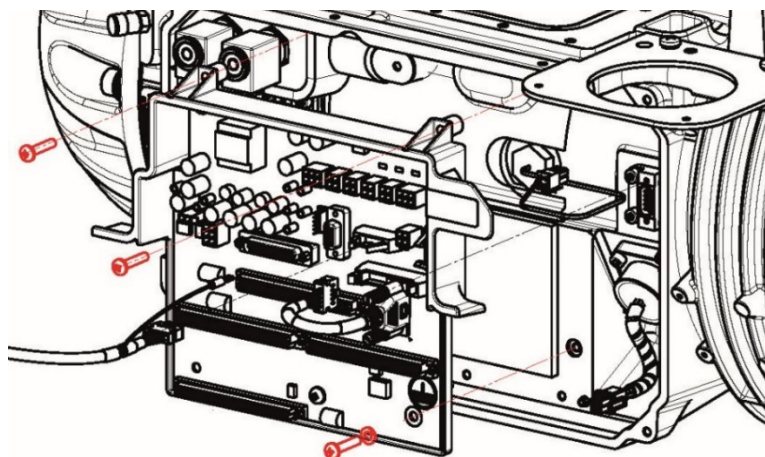

Figure 1– Backplane Fasteners
7. Remove the three (3) fasteners that secure the Backplane assembly to the compressor housing. Refer to Figure 1 (Backplane Fasteners). Do NOT remove the fastener from center bottom or top left of the Backplane circuit board.